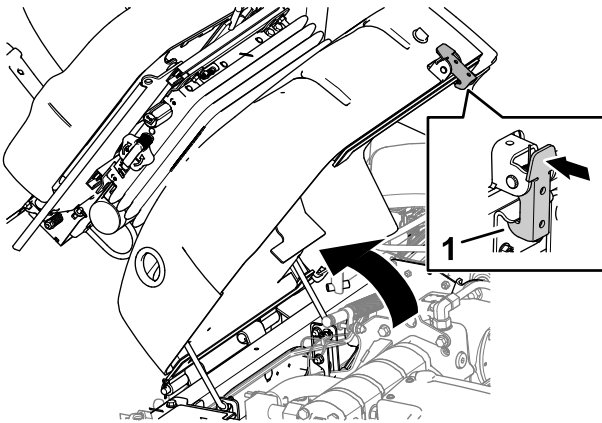

Figure 97
1. Move the seat latch outward (Figure 97).